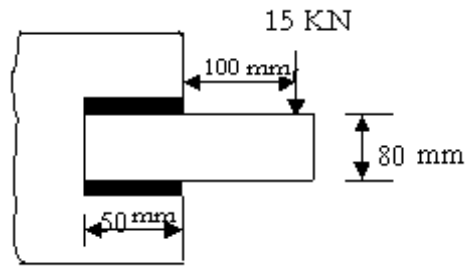

Figure 5
5. A bracket carrying a load of 15 KN is to be welded as shown in Figure5. Find the size of weld required if the allowable shear stress is not to exceed 80 MPa.